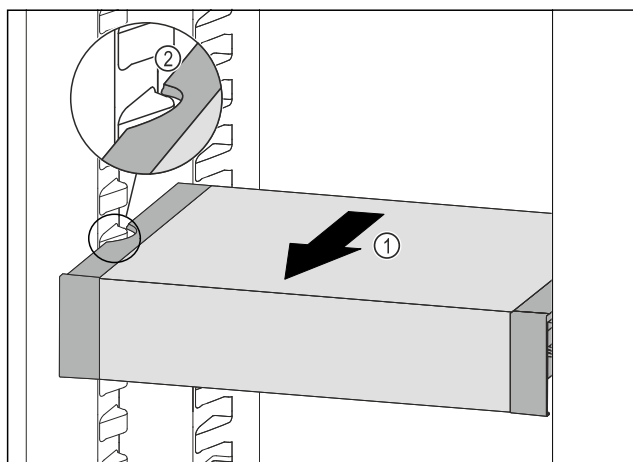

Fig. 97
- Pull VarioSafe forwards Fig. 97 (1) until the recesses in the side of the VarioSafe are at the level of the support rib in the fridge section. Fig. 97 (2)